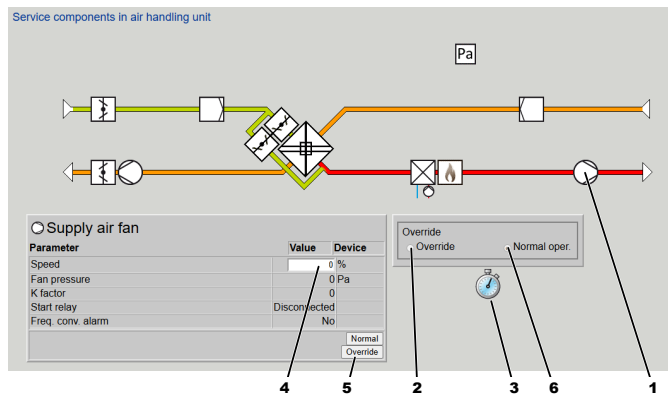

Fig. 44: Set override function
Use the 'Override' function ( Fig. 44 ) to carry out service or maintenance jobs, to check whether the outputs work correctly. The 'Override' function cannot be used if there are any alarms present in the AHU system.
- Click on the component of the AHU ( Fig. 44 /1) that is to be overridden (supply air fan).
- Click on 'Override' ( Fig. 44 /2).
- Click on the clock ( Fig. 44 /3) to set a time.
- Enter the override percentage for the extract air fan speed ( Fig. 44 /4).
- Click on 'Override' ( Fig. 44 /5).
To deactivate override and return to normal operation, select 'Normal operation' ( Fig. 44 /5).